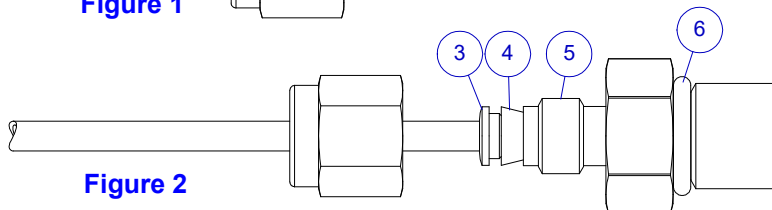

Figure 2
- 3) Push the Tubing into the fitting Body until the Tubing bottoms-out on the internal shoulder [Figure 2]
- 3) Re-insert the Tube (with pre-swaged Ferrules) into the Fitting until the front Ferrule seats against the fitting Body [Figure 2]. Engage the Nut and turn to finger-tight. Hold the fitting Body steady and turn the Nut with a wrench to the previous pulled-up position using the marks made prior to disassembly as references. There should be a significant increase in resistance at this point. Further tighten the Nut slightly.